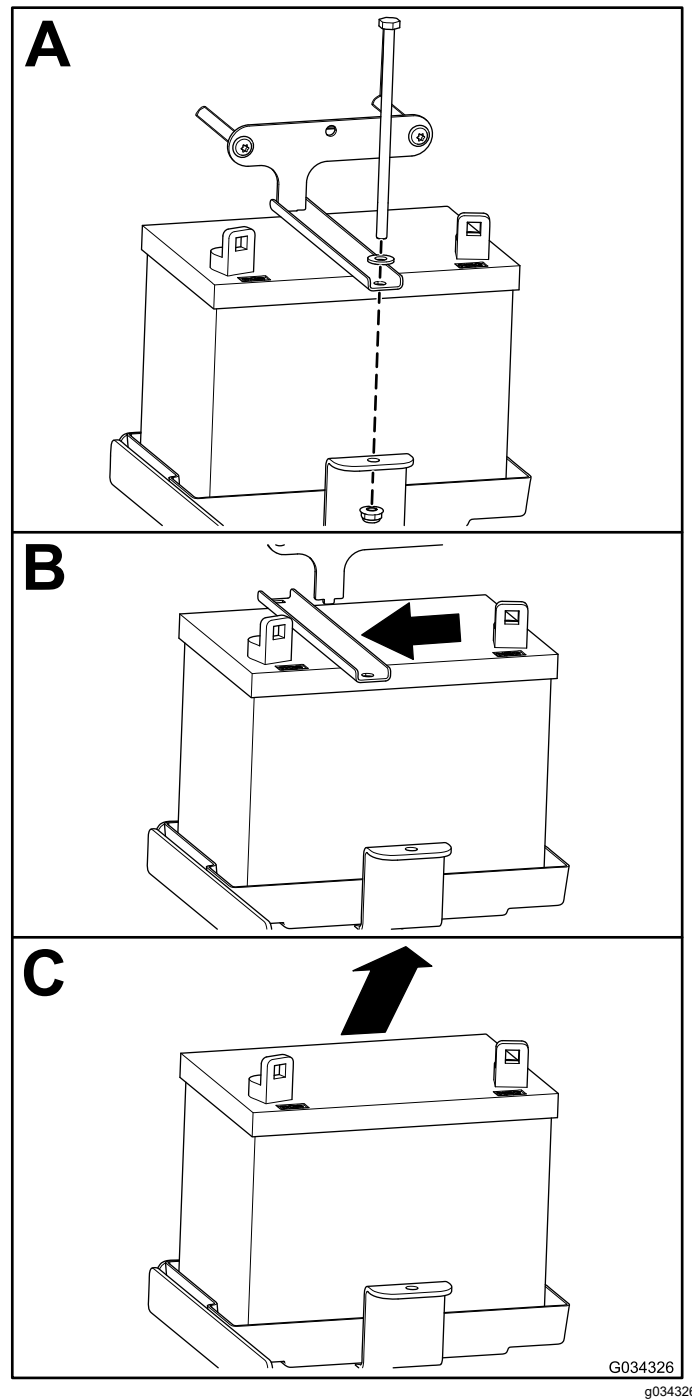

Figure 45
2. Remove the battery as shown in Figure 45.